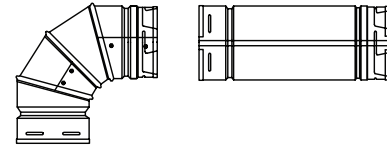

Figure 20
3. 90° Elbows. **Figure 20**. The installer should apply pressure to the section at the points indicated by the arrows. This will prevent the adjacent sections of the elbow from turning, as the next pipe or fitting is twist-locked on. This is important, because once these sections start rotating, the elbow does no longer have a 90° angle.